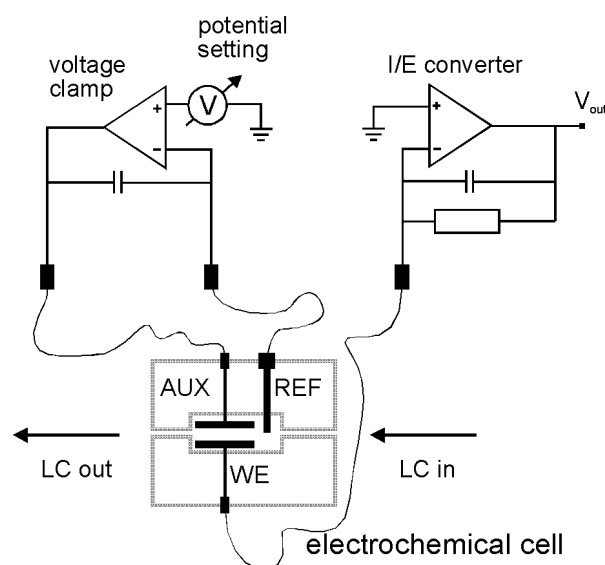

Fig. 2. Schematic representation of an electrochemical cell with a three-electrode configuration.
In the FlexCell a three-electrode configuration is used (Fig. 2). The working potential is set between the working electrode (WE) and the auxiliary electrode (AUX). The auxiliary electrode is kept at the same precisely defined potential as the reference electrode (REF) by means of the so-called voltage clamp. This is an electronic feedback circuit that compensates for polarization effects at the electrodes. At the working electrode, which is kept at virtual ground, the electrochemical reaction takes place, i.e. electrons are transferred at the working electrode. This results in an electrical current to the I/E converter, which is a special type of operational amplifier. The output voltage can be processed by an integrator, recorder or AD converter to generate the chromatogram.